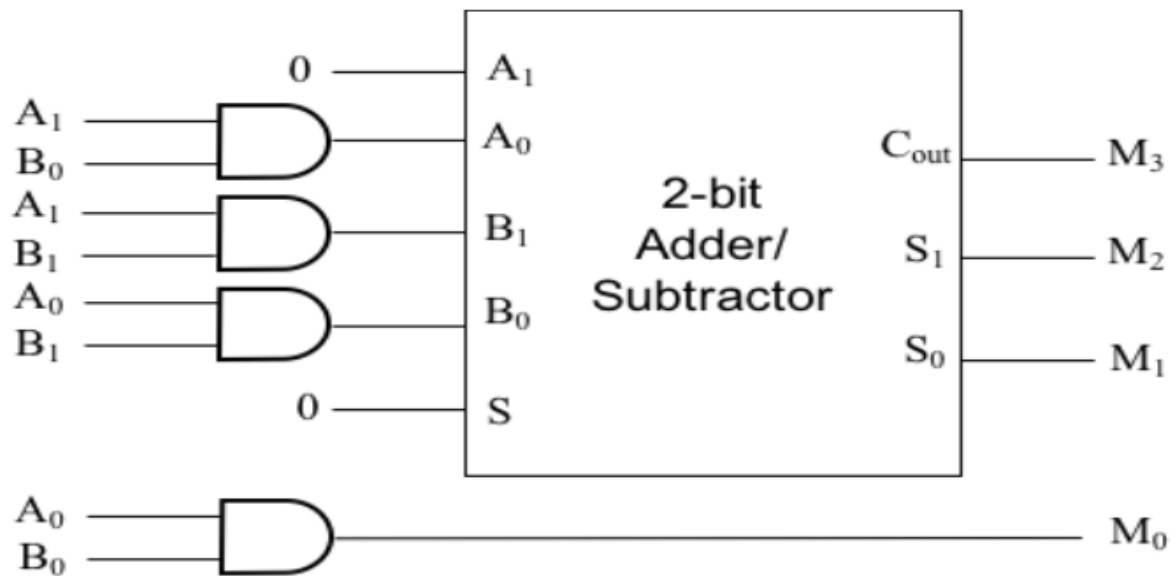

Figure 4: 2-bit Multiplier
- a) Inside the **Mul.v** file, write a **structural** Verilog code to implement the 2-bit multiplier module shown in Figure 4 using one instance of the 2-bit adder/subtractor circuit and four instances of the 2-input AND gate module from **lib.v**. This module has four inputs (A0, A1, B0, and B1) and four outputs (M0, M1, M2 and M3).